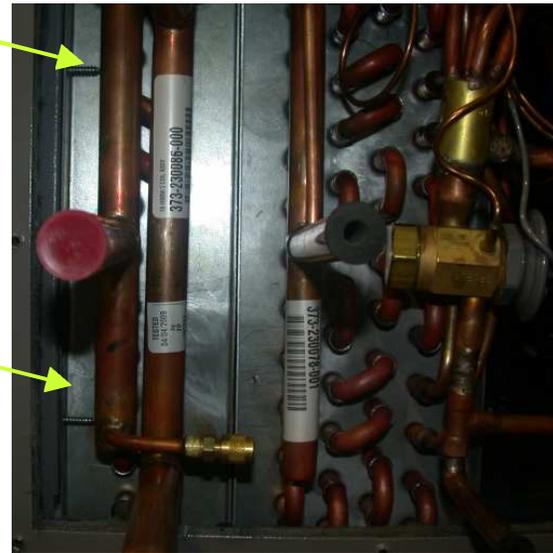

Figure 38
5. Remove coil retaining screws (4ea sizes 04-20, up to 6ea sizes 30-80). Screws attach the first coil to the coil panel. Screws are visible from the coil side (Figure 38) and are accessible from the filter side of the unit (Figure 39).